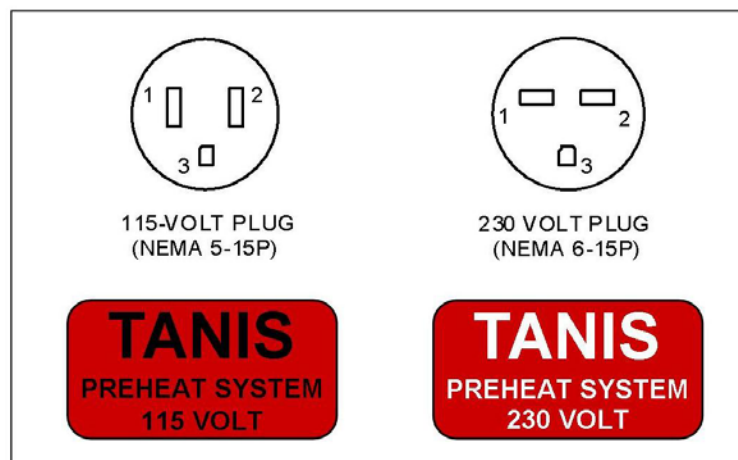

Figure 1 - Shore power plugs and placards.
- 3) [☐] Verify preheat system ground by checking for continuity between shore power plug ground, pin 3 (Figure 1), engine, and airframe.